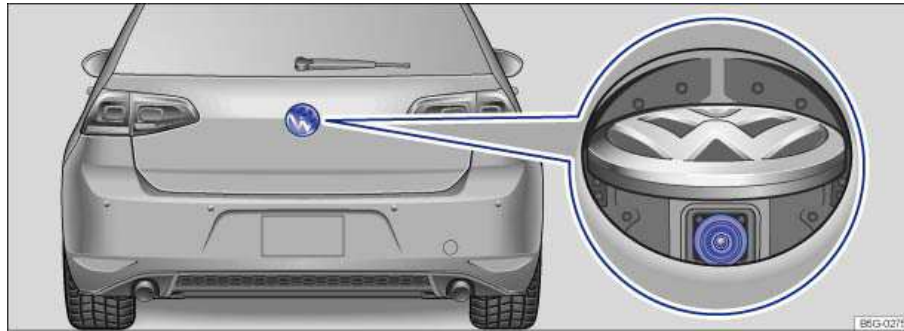

Fig. 138 In the rear hatch: Location of the Rear Assist camera.
- ✓ A reliable and clear image must be displayed and the Rear Assist camera lens must be clean ⇒ fig. 138.
The Rear Assist camera ⇒ fig. 138 (magnified view) displays only two-dimensional images. Recesses and protruding objects on the ground or protruding parts on other vehicles may be difficult or impossible to identify due to the lack of depth of field.